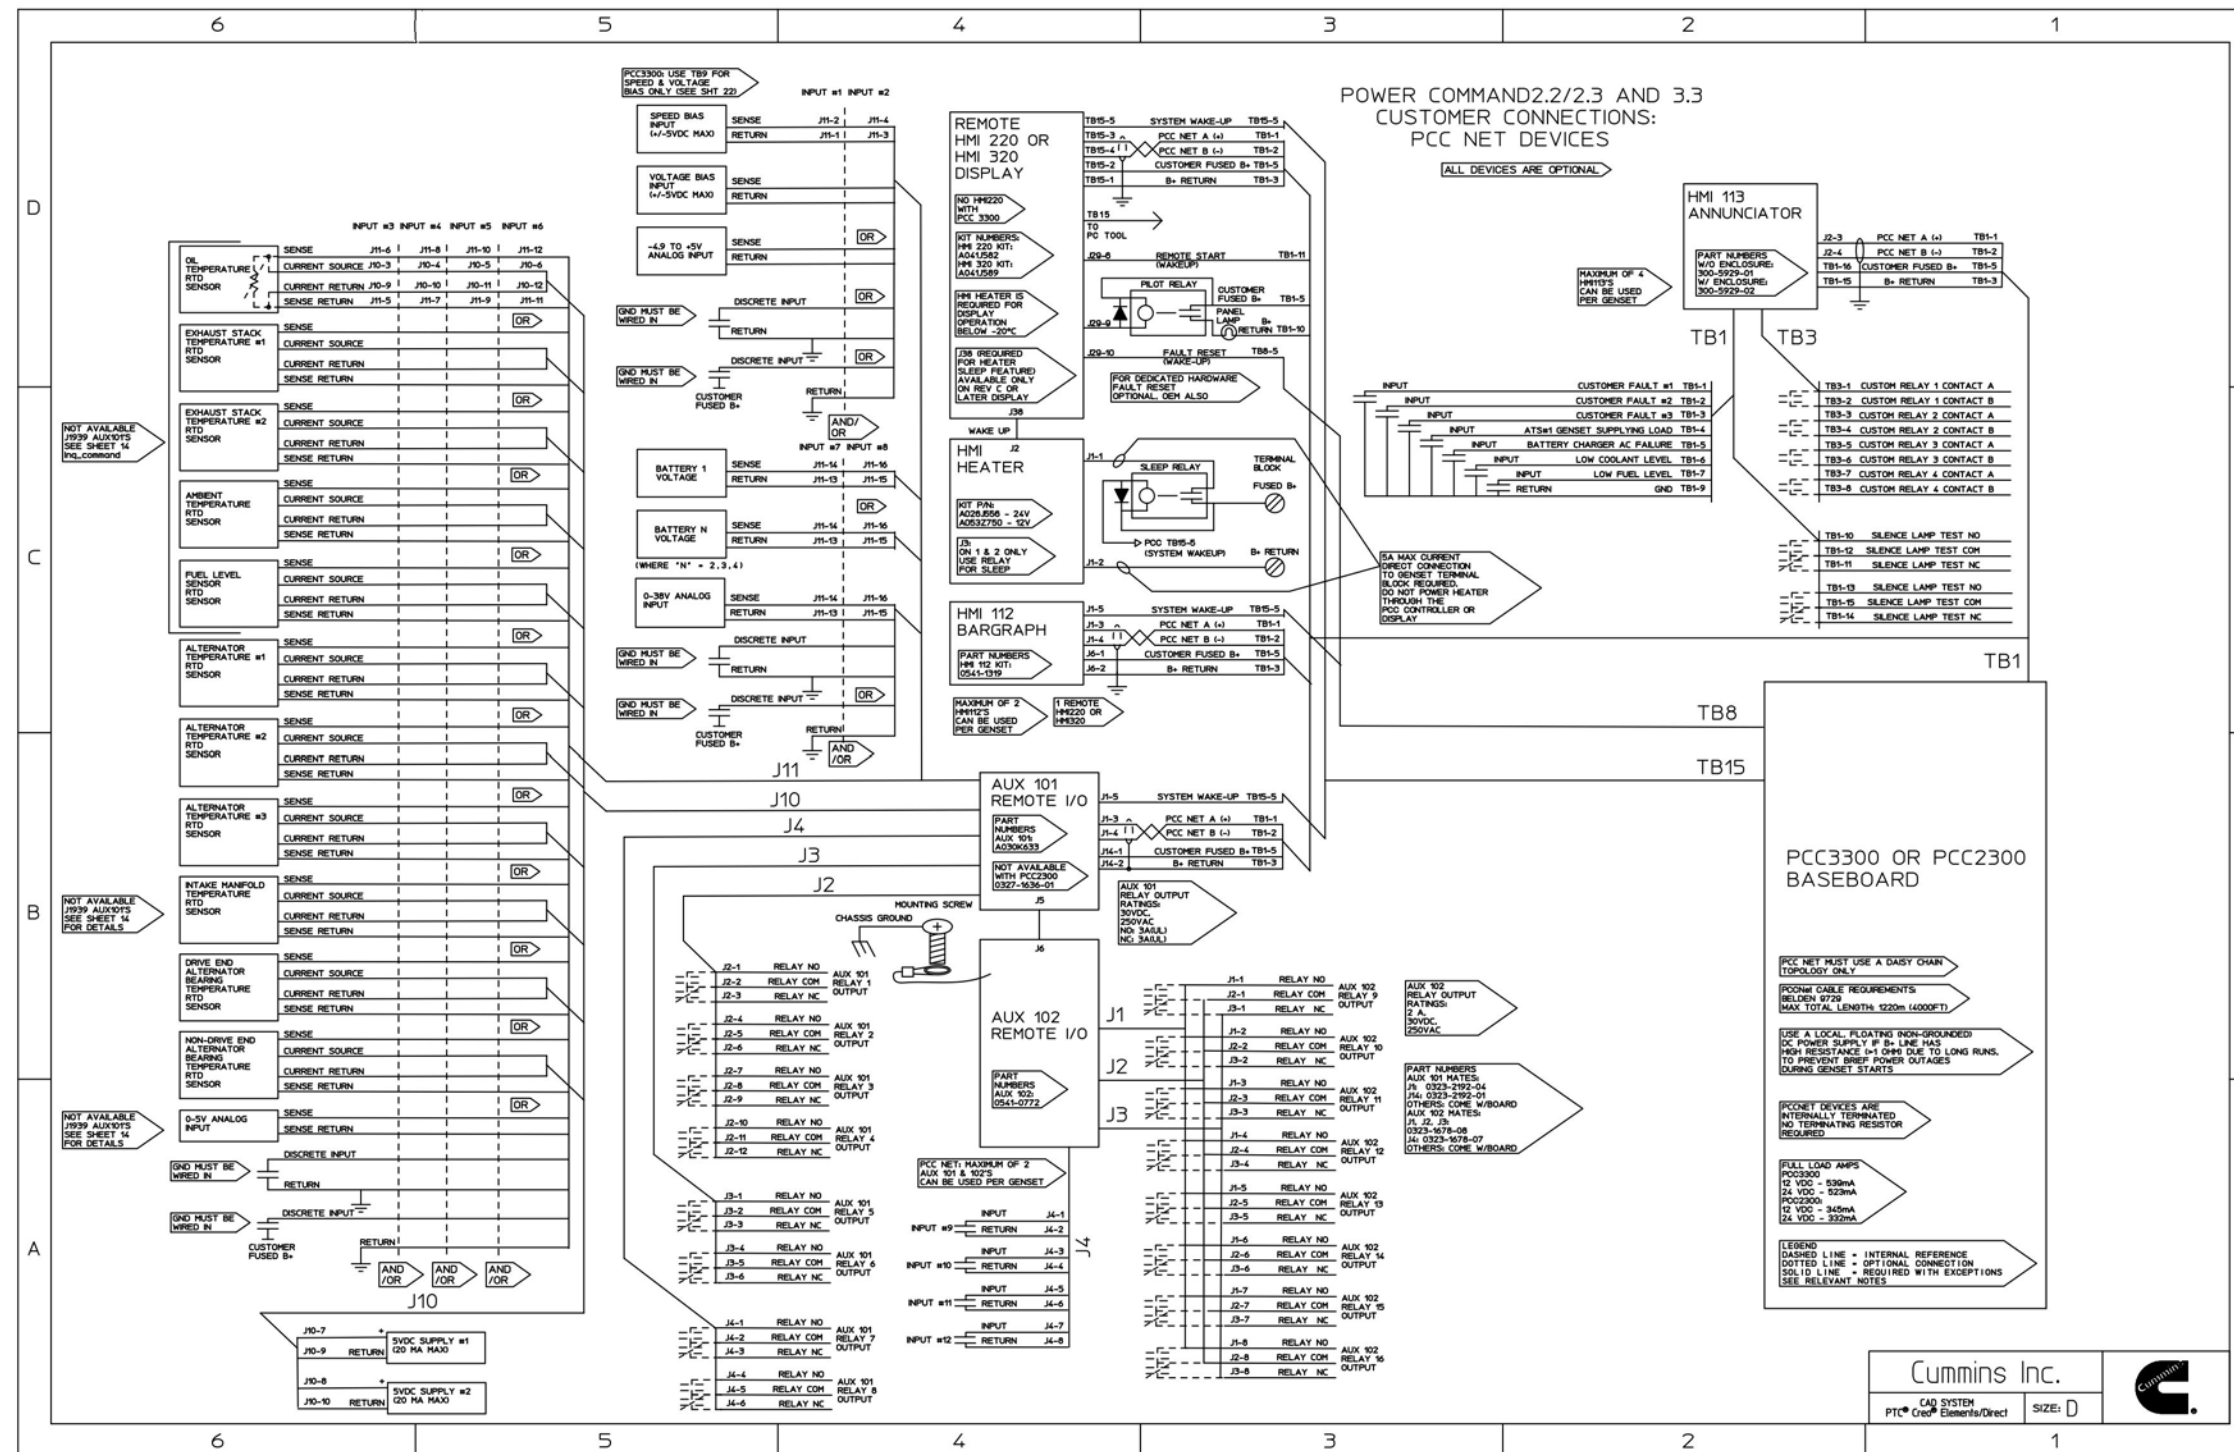

FIGURE 50. CONTROL CUSTOMER CONNECTIONS - PCC NET DEVICES
- Figure 50. Control Customer Connections - PCC Net Devices 113